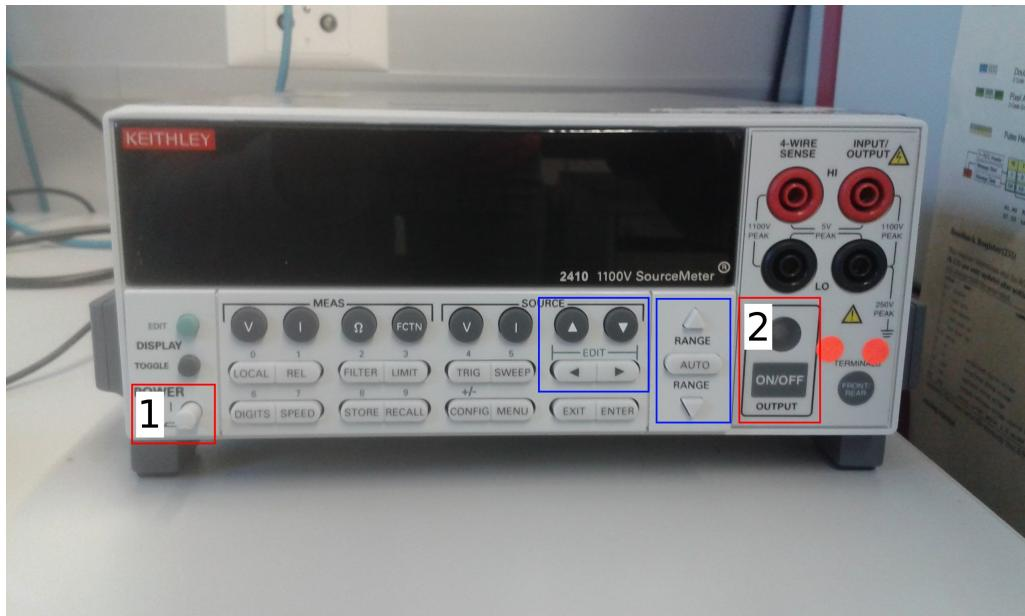

Figure 8: Picture of the Keithley power supply.
- Turn on Keithley by pressing 1 on Figure 8.
- Choose desired bias voltage with the buttons marked in blue on Figure 8.
- Apply bias voltage to module by pressing button 2 on Figure 8.